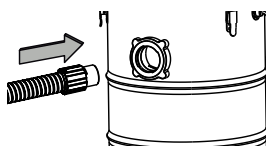

Fig 5
3. Connecting the hose: Insert the larger end of the hose into the suction port of the container (Fig. 5).